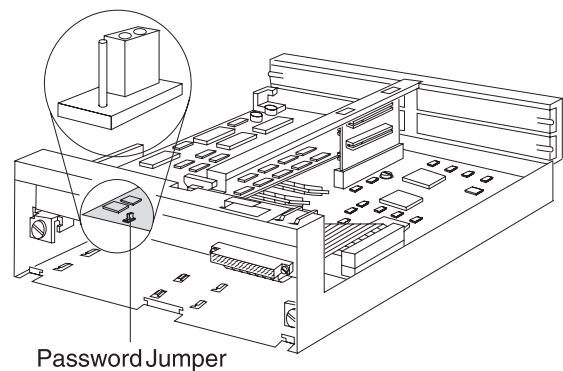
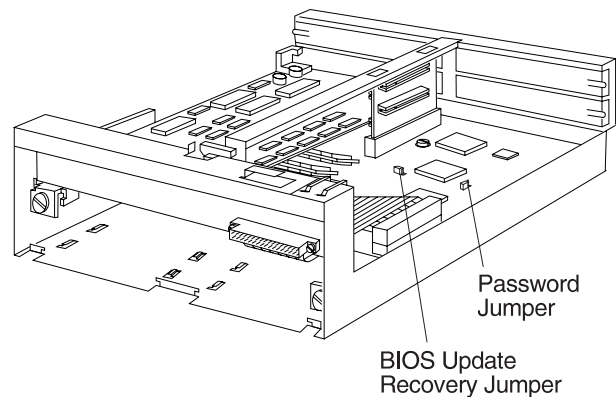

Figure 1-19. Password Jumper
Figure 1-20. Password Jumper (Model 3W1)
**Note:** You only have to pull the logic tray out far enough to gain access to the jumper which is located on the front left corner of the logic board when viewed from the front. See Figure 1-19 or Figure 1-20 (for model 3W1).